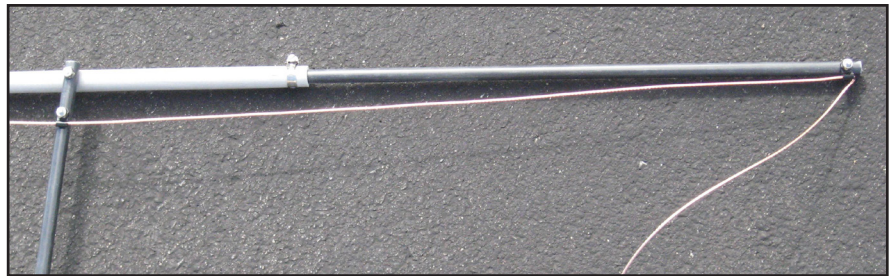

Fig. 83
- **At the Driven End of the antenna**, temporarily remove the two (2) 10-24 SS Anti-vibration Hex Nuts and Black Cable Clamps, then insert the wire through both. Replace the Black Cable Clamps with wire and the Hex Nuts on the Machine Screws as shown in Fig. 83 and tighten well.